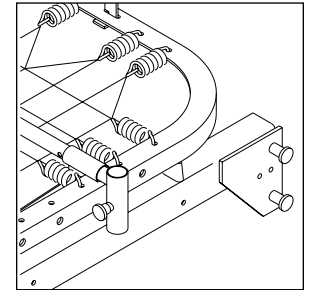

Figure 1
2. Place the bed in the flat position and position one crossbrace between the second and third springs on the head-end section of the bed (Figure 1).